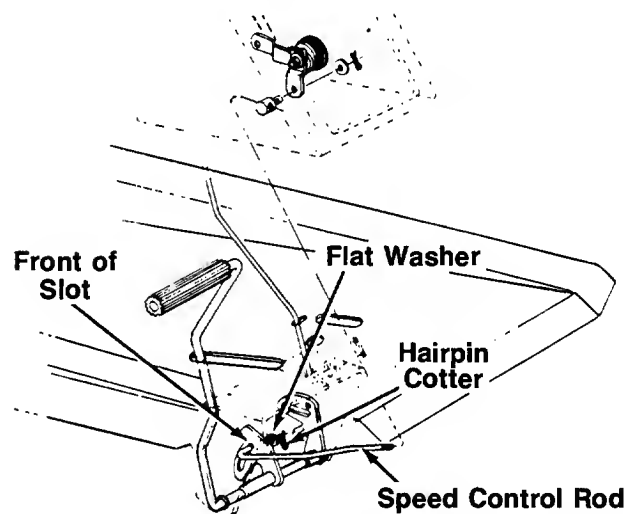

FIGURE 19.
7. Disconnect the speed control rod by removing the hairpin cotter and flat washer. See figure 19.
9. Adjust the rod by threading it in or out of the ferule until it is all the way to the front of the slot as shown in figure 19.